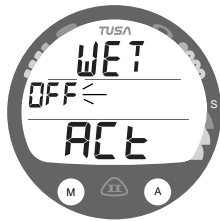

Fig. 26 - SET WET
**Set Wet Activation**, information includes (Fig. 26):